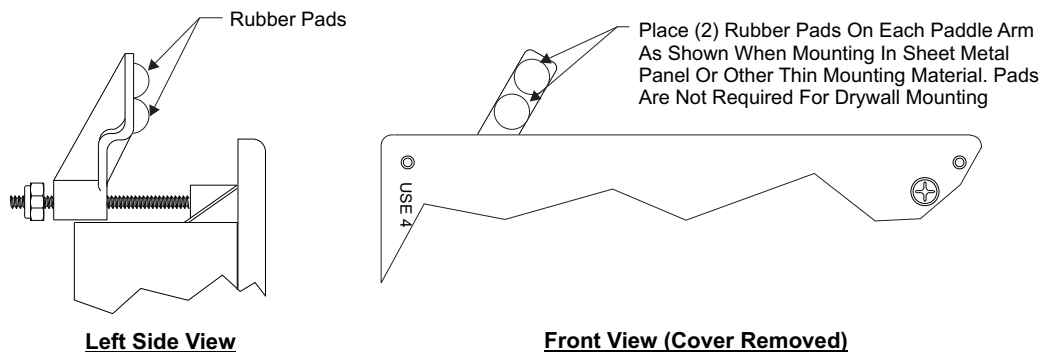

Figure 2: System Manager TS II - Control Panel Mounting Pad Placement Detail (Flush Wall Mount)
The flush wall mount version has integral wingnut paddles that are tightened after installation to grip the drywall and hold the System Manager TS II in place. For mounting in a control panel cover or other thin material, (4) adhesive backed rubber pads are provided to assist in securing the System Manager TS II into the cutout in the panel. These pads are applied to the wingnut paddles to provide a non-slip mounting against the panel’s sheet metal surface. See **Figure 2** for pad placement details.